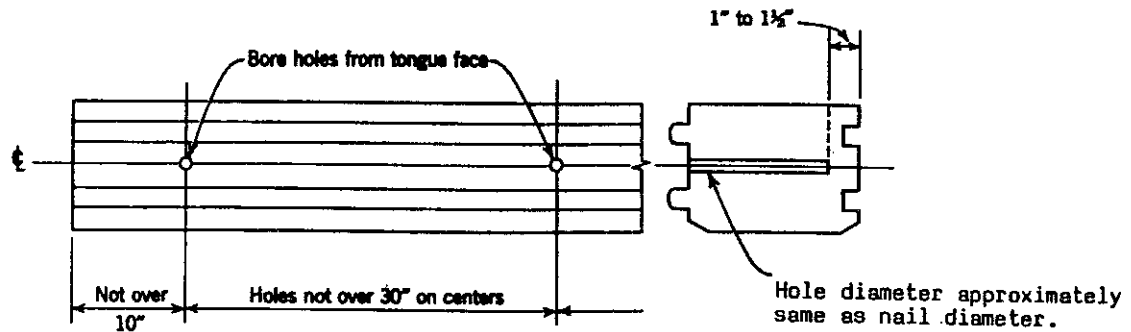

Figure 5. Boring Detail. Locate end holes not over 10 inches from end of piece.
- 6.3.2 Three and Four Inch Decking. Each piece should be toenailed at each support with one 40d nail and face nailed with one 60d nail. Courses shall be spiked to each other with 8 inch spikes at intervals not to exceed 30 inches through predrilled edge holes and with one spike at a distance not exceeding 10 inches from each piece. See figure 5 for drilling details.